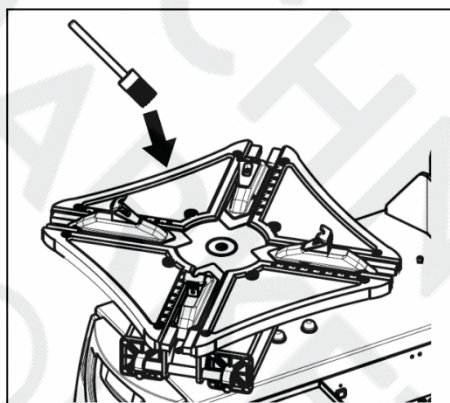

FIG36
- Periodically check the height of the in the oil fogger. If it is lower than the oil scale, please fill in the SAE30 grease (Fig36). Periodically drill out the water and impurity in the oil-water separator.